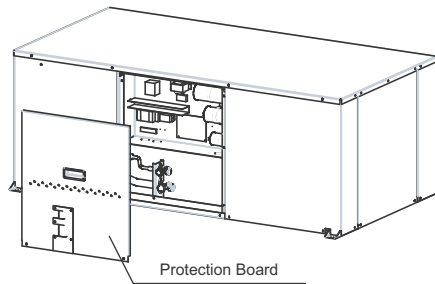

Fig.14-2
14.3 Wiring figure (Refer to Fig.14-2~Fig.14-5)